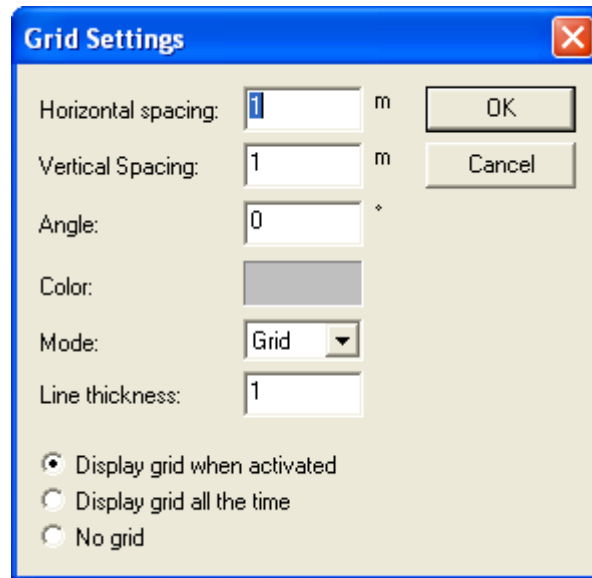

FIGURE 2.6-1 GRID SETTINGS DIALOG WINDOW
**Grid Settings (Fig. 2.6-1).** This tool opens the Grid Settings dialog box where grid spacing, angle and other parameters can be set.